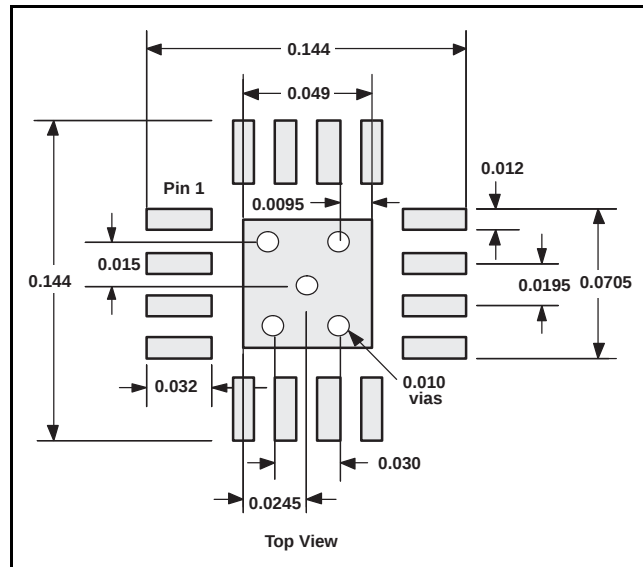

Figure 88. PowerPAD PCB Etch and Via Pattern
9. The recommended printed circuit board (PCB) footprint for the THS4513 is shown in the Land Pattern of Figure 88.
1. Prepare the PCB with a top side etch pattern as shown in Figure 88. There should be etch for the leads as well as etch for the thermal pad.
- Changed title of Typical Characteristics: $V_{S+} - V_{S-} = 5\text{ V}$ 8 - Deleted conditions from Typical Characteristics: $V_{S+} - V_{S-} = 5\text{ V}$ table of graphs 8 - Changed title of Typical Characteristics: $V_{S+} - V_{S-} = 3\text{ V}$ 16 - Deleted conditions from Typical Characteristics: $V_{S+} - V_{S-} = 3\text{ V}$ table of graphs 16 - Changed item 9 of the Layout Recommendations 29 - Added the PowerPAD Design Considerations section 29 - Added the PowerPAD PCB Layout Considerations section 30 - Moved Figure 88 and associated sentence to beginning of PowerPAD PCB Layout Considerations section 30	8 8 16 16 29 29 30 30